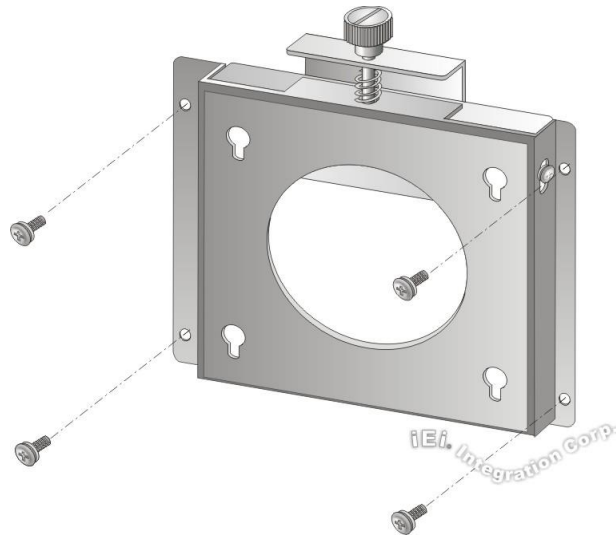

Figure 3-38: Attach Wall Mounting Kit to the Wall
- Step 1:** Attach the wall mounting kit to the mounting surface with the included screws. Make sure it is attached securely (Figure 3-38).